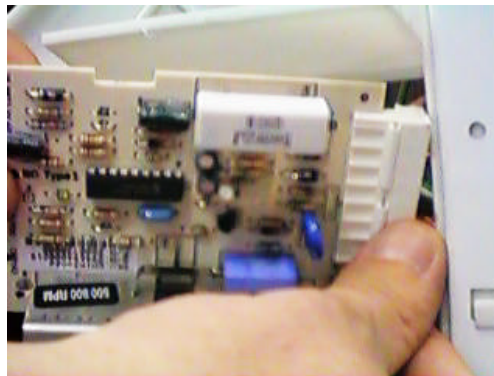

Figure : 15
- Speed control module cables are disconnected (figure 15)